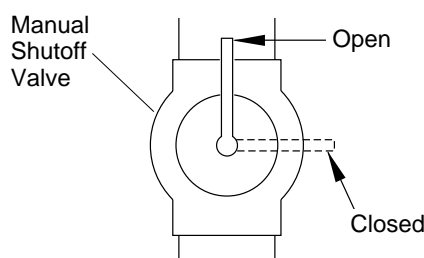

Figure 21 - Manual Shutoff Valve
1. Close manual shutoff valve (see Figure 21).
1. Open manual shutoff valve (see Figure 21).